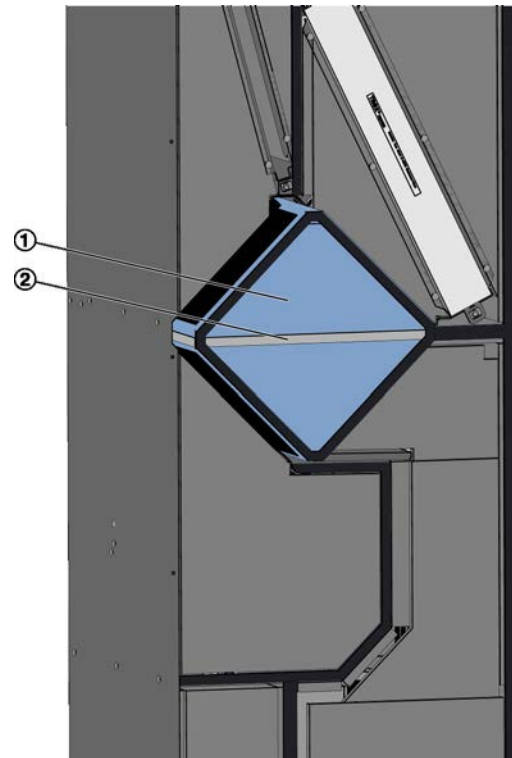

Fig. 25: Cleaning the recuperative heat exchanger
3. ▶ Grasp the recuperative heat exchanger (Fig. 25/1) by the lug (Fig. 25/2) and pull it out.